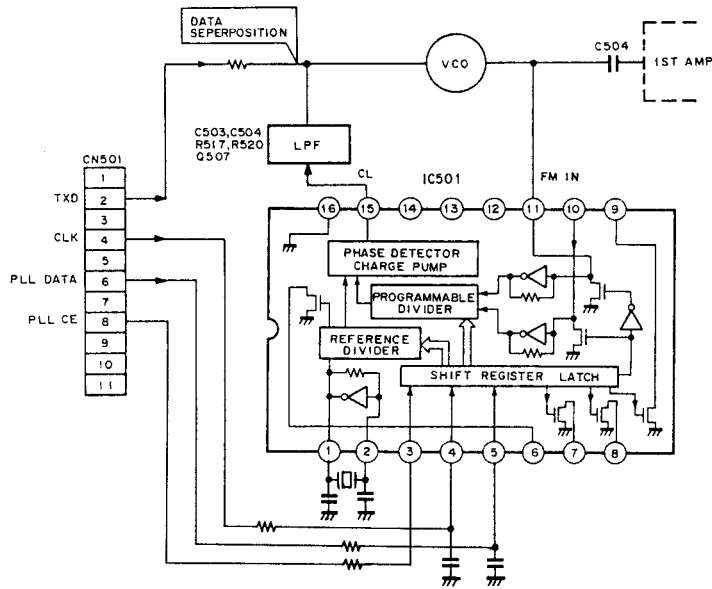

Fig. 33 PLL and RF Modulation
2. PLL and RF Modulation (Fig. 33, 34)